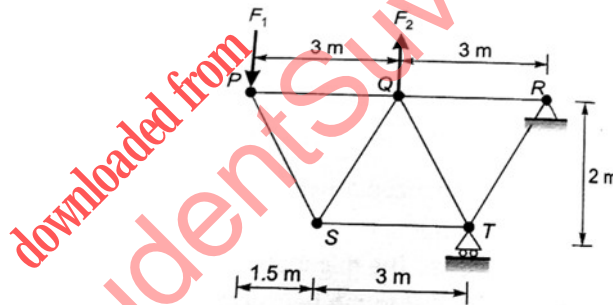

Fig. 4
- (a) For the truss shown in the figure 4, the forces F_1 and F_2 are 9 kN and 3 kN respectively. The force (in kN) in the member QS is (All dimensions are in m).